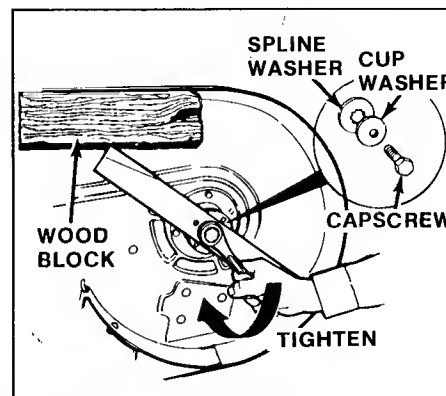

Figure 20. Installing Blade
7. Reinstall each blade with the tabs pointing up toward deck and secure with a cap screw, cup washer, and spline washer. Be sure all splines are aligned and washer is flush against blade. Use a wooden block to prevent blade rotation and torque cap screw to 55 ft. lbs. (74 N.m). (figure 20).